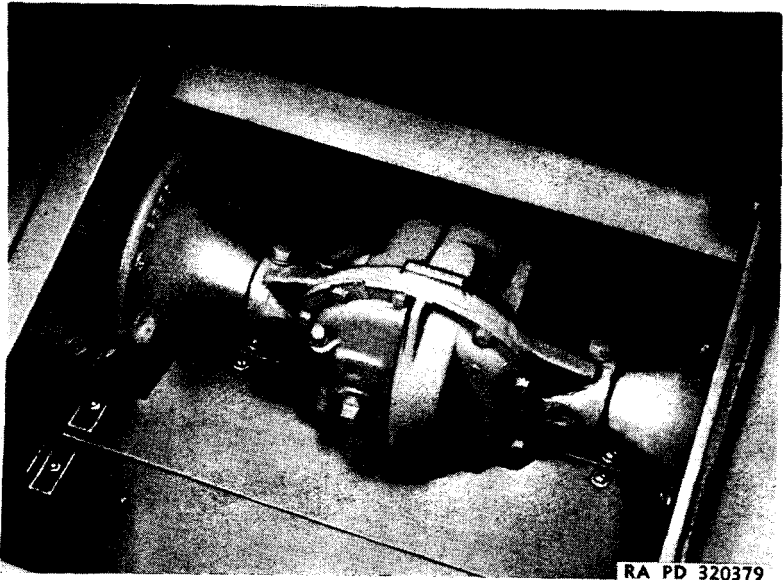
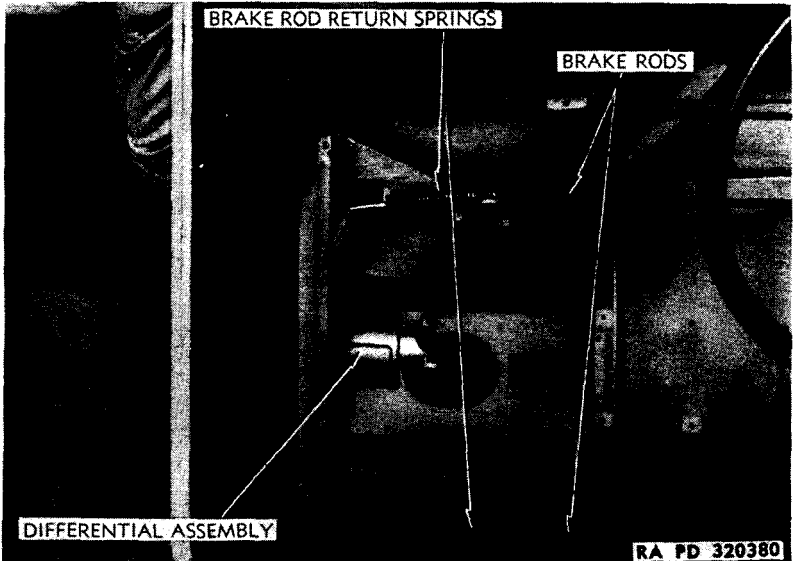

Figure 79—Differential Cover
Figure 80—Unhooking Brake Rod Return Spring
b. Removal of Differential Housing Cover. Remove first floorboard back of differential by removing four nuts, lock washers, flat washers, and bolts. Remove 10 cap screws holding cover to differential housing. Remove cover (fig. 79). To install, reverse the removal procedure, using a new gasket and cementing it to differential housing. Fill with lubricant to the proper level. See Lubrication Guide (fig. 24).
- (1) Remove track and frame assemblies (par. 119 b).
- (2) Remove fuel tank (par. 66 c).
- (3) Remove brake return springs from brake control rods and brackets (fig. 80). Remove cotter pin from each brake control rod at brake cam lever.
- (4) Remove four bolts holding first floorboard back of differential. Remove floorboard.
- (5) Remove four bolts holding differential assembly to frame, and lower differential assembly down from tractor and remove.